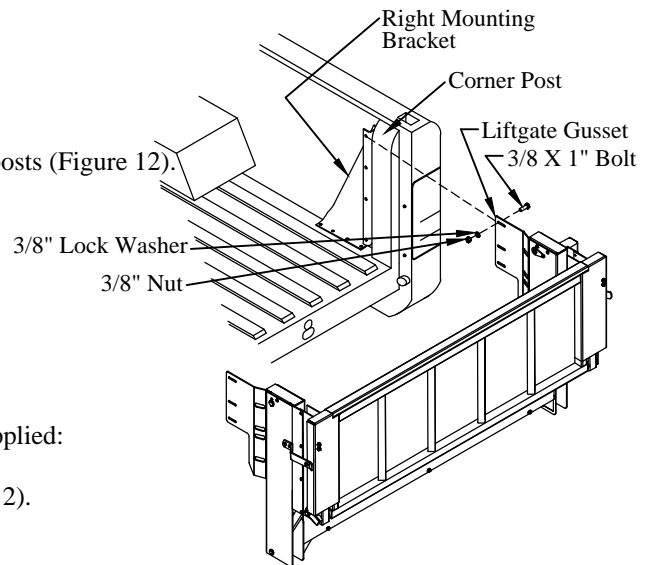

Figure 12: Mounting bracket and liftgate.
2. **Position** the mounting brackets into the truck bed in front of the corner posts (Figure 12).
- (3) 3/8"x1" hex head bolts on the bracket-side (Figure 12).
- (3) 3/8" lock washers, and (3) 3/8" nuts on the gusset-side (Figure 12).
8. **Drill** two (2) 3/8" holes into the truck bed floor using two holes in the bracket as a guide.